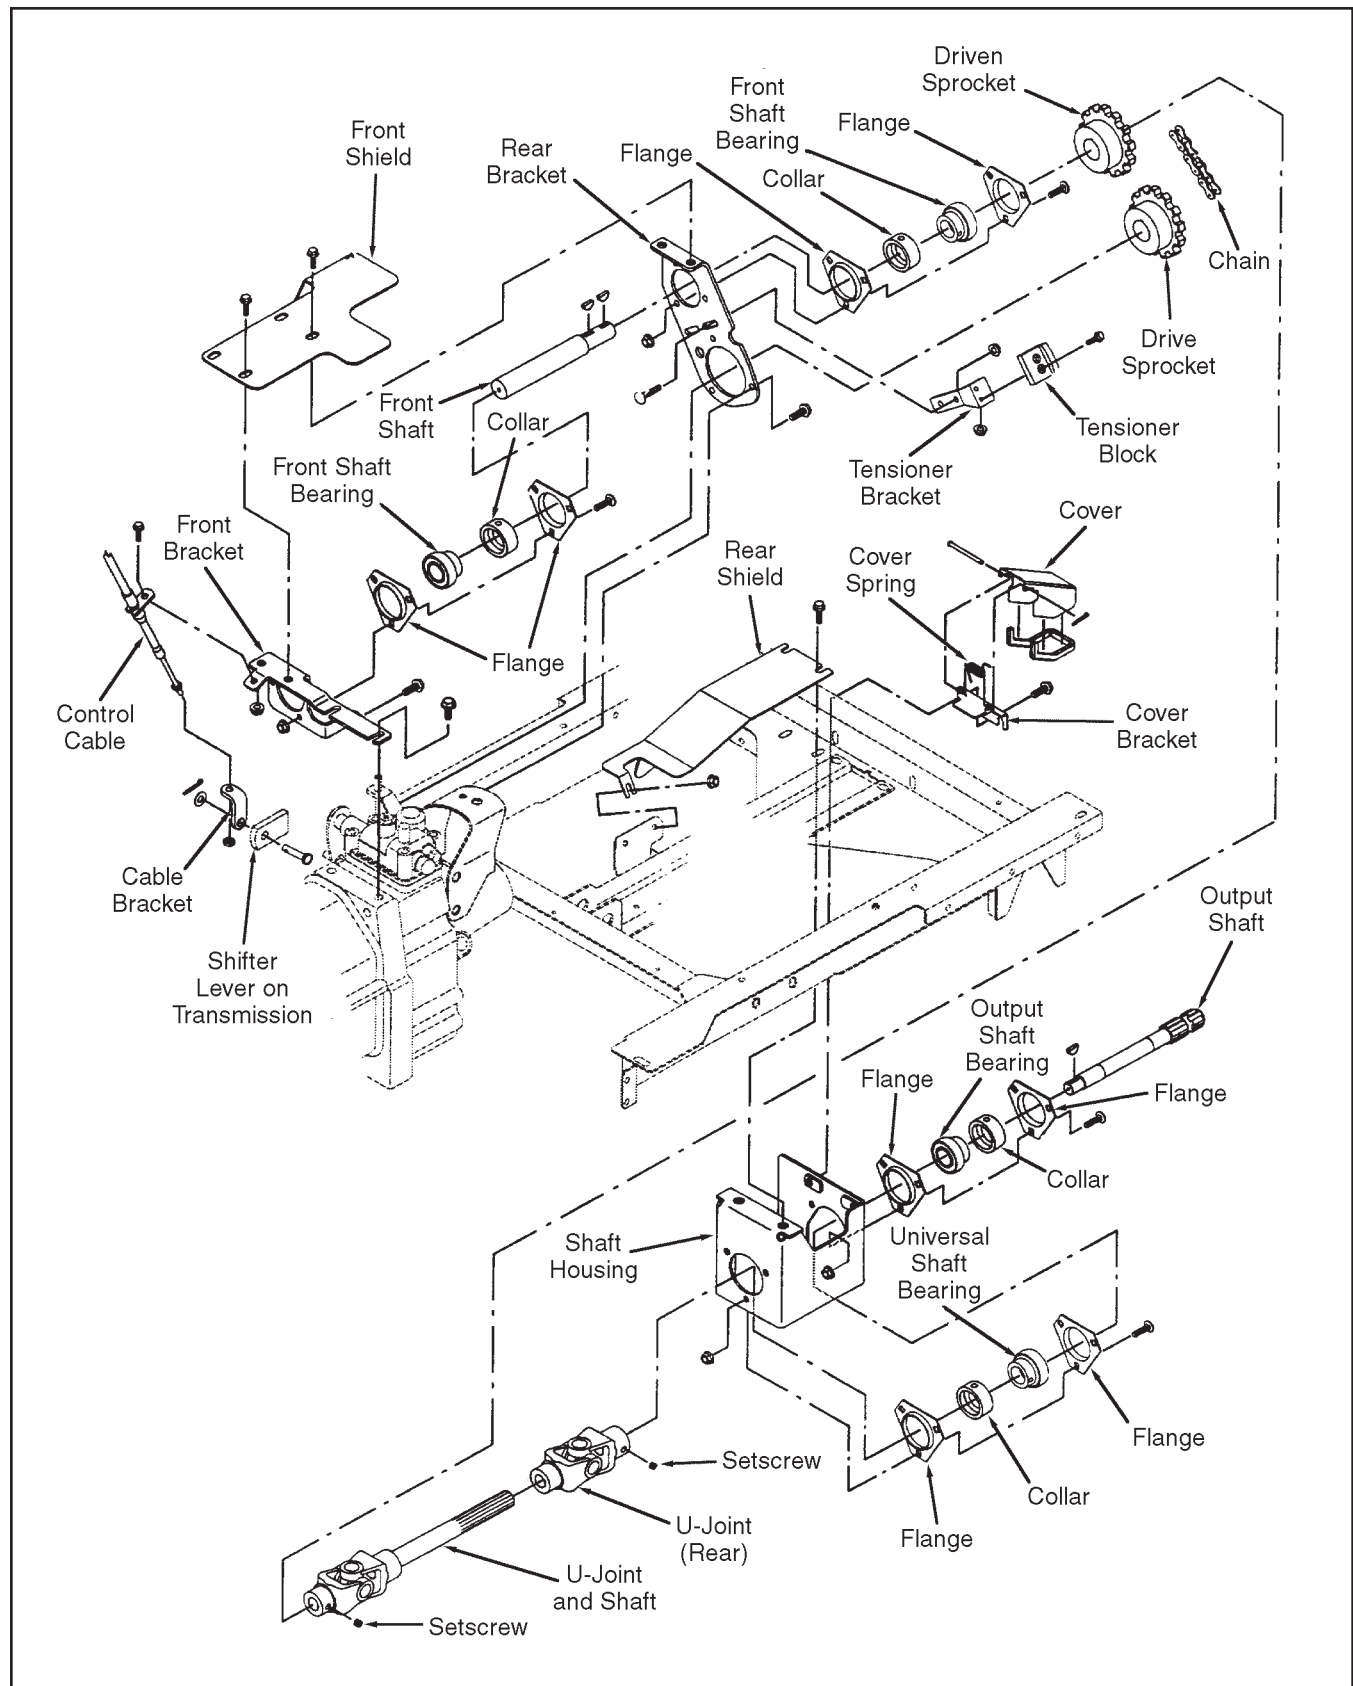

Figure 12C-3. Mechanical PTO Exploded View
3. Disconnect the control cable from the lever at the transmission (see Figure 12C-3).
CONTROL CABLE**(See Figures 12C-1 and 12C-3)**